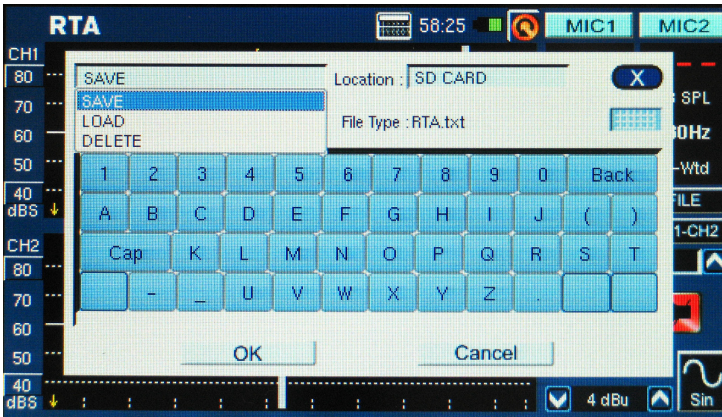

figure 60
2. Select SAVE from the pull-down menu on the top left of the page (figure 60).
3. Choose the appropriate location for your save file (from either the PAA6 or an SD card) (figure 60).
4. Select the small keyboard icon to the right of the window (figure 60).